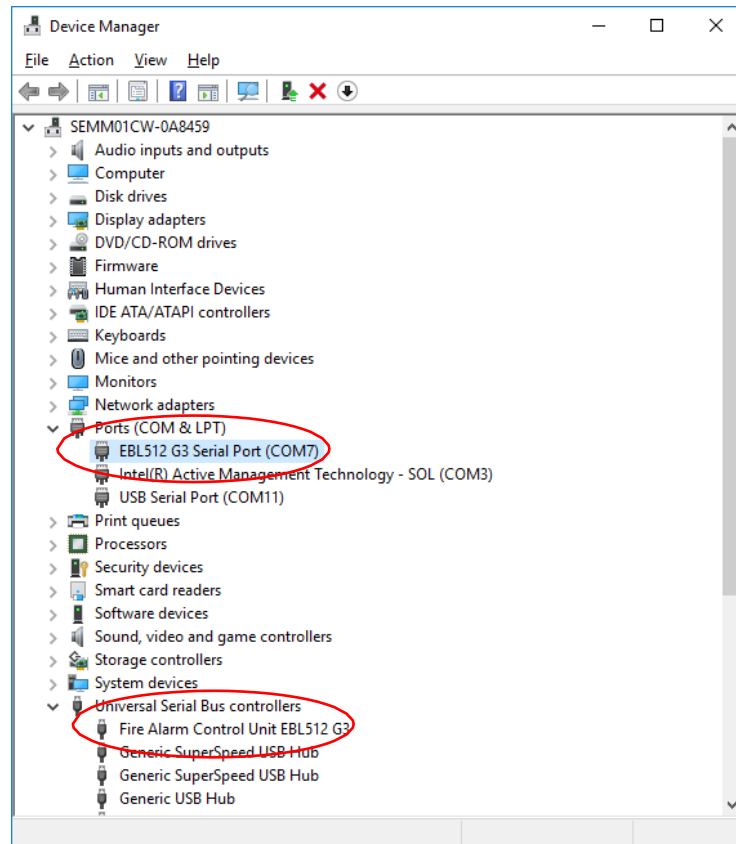

Figure 19 Final Display Device Manager
8. Plug in EBLWin key 5094 into another available USB port
9. Go to Tools > Log on control unit, the COM port number in Figure 19 should be displayed.